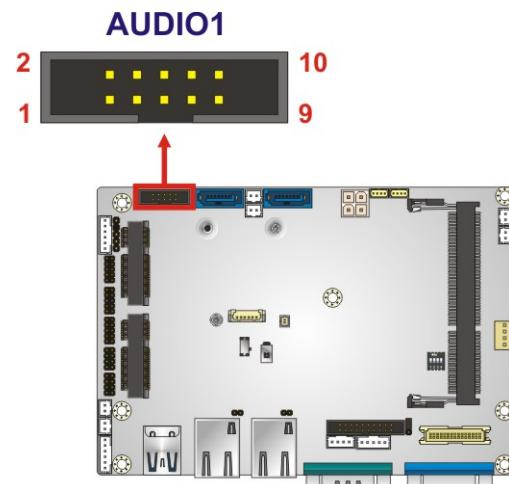

Figure 3-4: Audio Connector Location
**CN Location:** See **Figure 3-4**